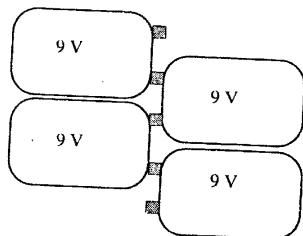

Fig 19.15
- battery 9 V; four units can be connected in series as shown in fig. 19.15